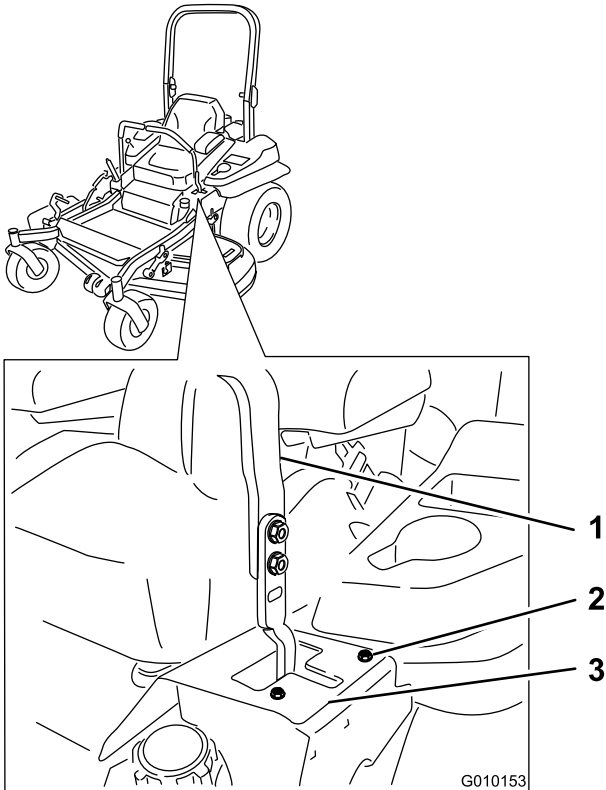

Figure 72
- If the machine tracks to the right, loosen the bolts and adjust the left stop plate rearward on the left T-slot until the machine tracks straight (Figure 72).
- If the machine tracks to the left, loosen the bolts and adjust the right stop plate rearward on the right T-slot until the machine tracks straight (Figure 72).
8. Tighten the stop plate (Figure 72).